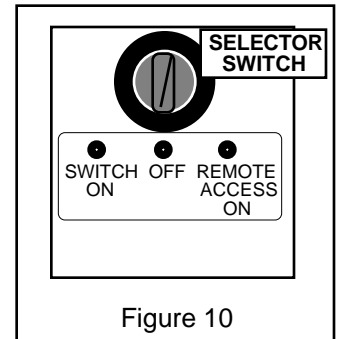

Figure 10
2. Place the **Control Selector Switch** (Figure 10) in OFF. Accessory Controls must also be turned "OFF" (Remote Control) or to lowest temperature setting (Thermostat).